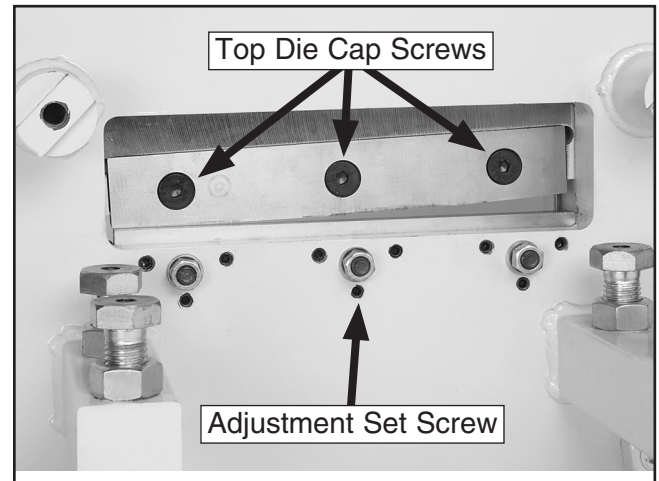

Figure 59. Flat stock shearing dies (front view).
4. Use the foot actuator to pivot the beam to the right so that the flat head cap screws of the top die are accessible, then release the pedal actuator to hold it in that position (see **Figures 59–60**).
9. Back the bottom die adjustment screws (see **Figure 59**) out until they no longer protrude from the inside face of the front panel.